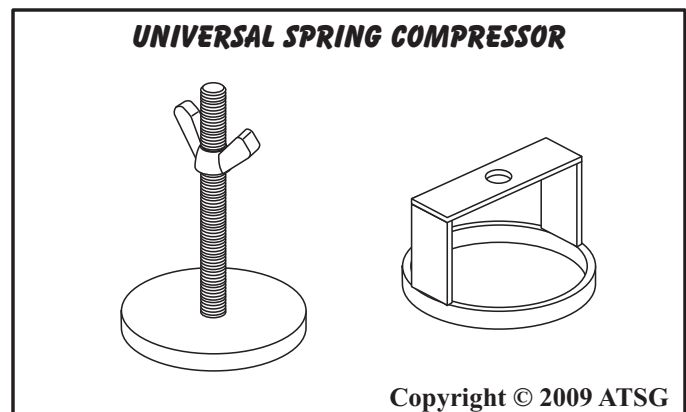

Figure 83
27. Install spring compressor (Figure 83) through rear of case to compress the return spring.